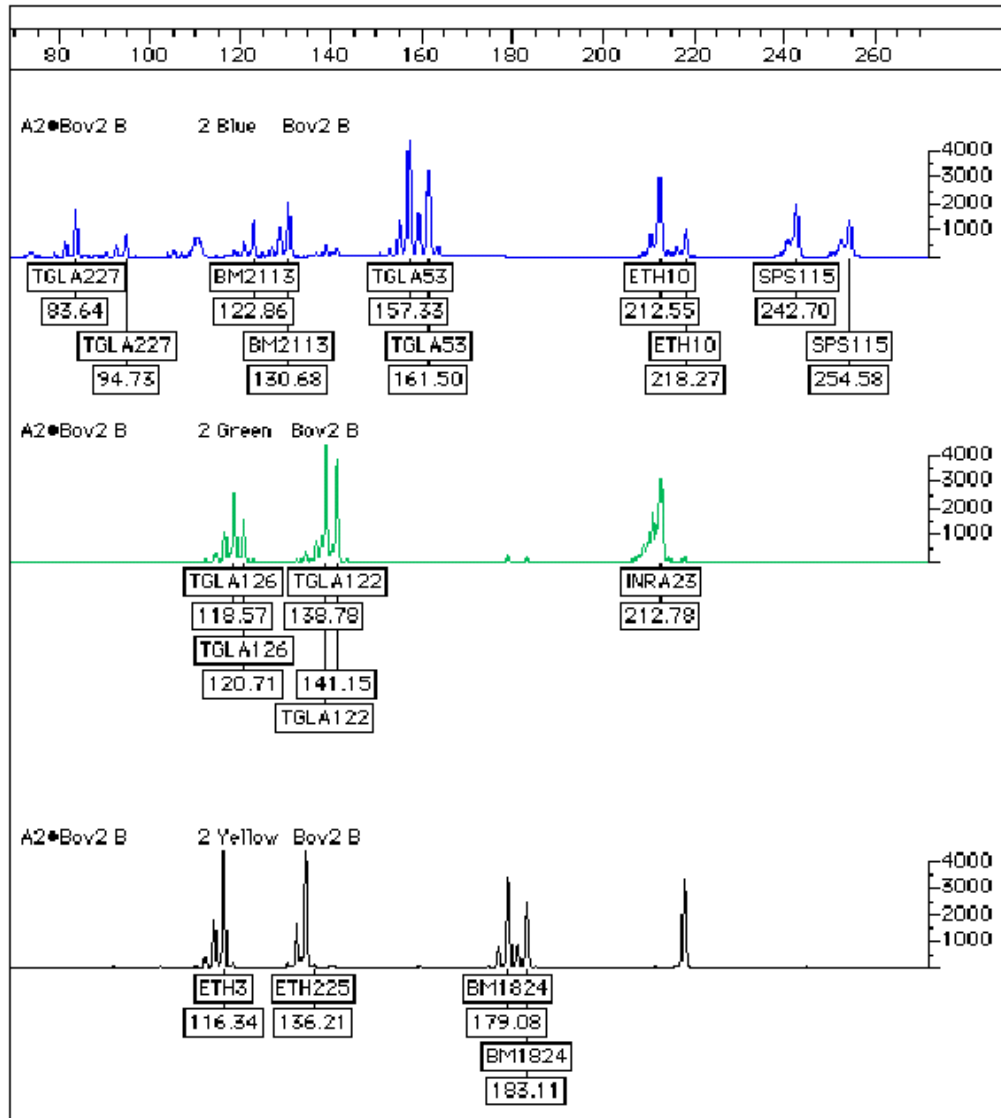

Figure 5 Genotyper™ software analysis of PCR amplification products using bovine control DNA and separated on an Applied Biosystems® 310 Genetic Analyzer
- Applied Biosystems® 310 Genetic Analyzer (Figure 5 on page 30)